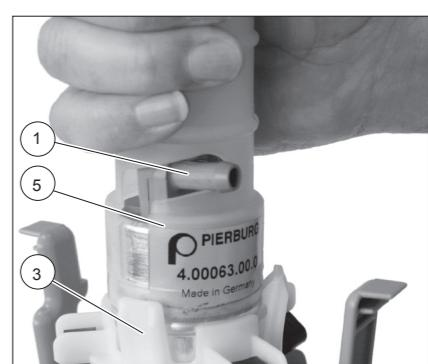
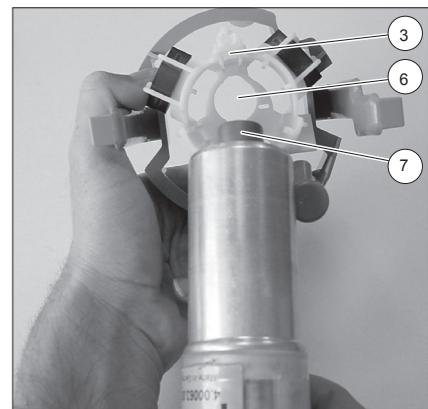

Abb. 2/Fig. 2/ Рис. 2
Abb. 3/Fig. 3/ Рис. 3
- Open the hose clamps on the delivery pipe joint (1) and pull off the fuel hose. Take care that the fuel hose is not damaged in the process.
• Carefully pull off the suction filter (4) on the pump inlet. Clean the suction filter and put away for later re-installation.
- Place tool (5) (Pierburg No. 4.00063.00.0) with its recess on the angled delivery pipe joint (1) of the pump.
- Firmly press the positioned tool (5) on the pump until the tool is in contact with circumferential bead of the pump. In this process, the tool (5) expands the fixture of the bushing (3).
- Twist the tool to the side so that the angled delivery pipe joint of the pump engages in the recess on the tool (see Fig. 2).
- The pump can then be extracted from the bushing **using the tool (5)**.
- Insert the **new pump** with the angled delivery pipe joint (1) of the pump in the recess of the tool (5) (Pierburg No. 4.00063.00.0).
- The pump must now be inserted into the bushing (3) with the tool that the induction pipe (7) is seated in the appropriate opening (6) at the bottom of the bushing (3) (see Fig. 3).
- **Use the tool (5)** to firmly press the pump into the bushing.
- Position the suction filter (4) i such a way that the stud (8) is seated in the groove (9).